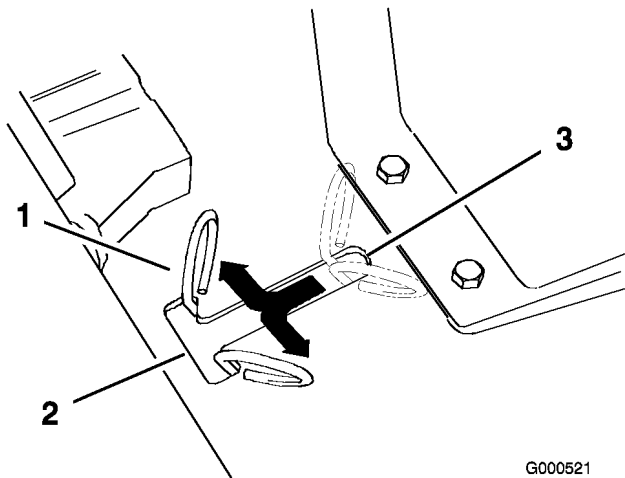

Figure 15
3. Raise the seat to access the bypass levers (Figure 15).
4. Move the two bypass levers forward and then outward to lock them in place as shown in Figure 15.
Move the bypass levers to the inside and pull them rearward, to the end the slot (Figure 15).